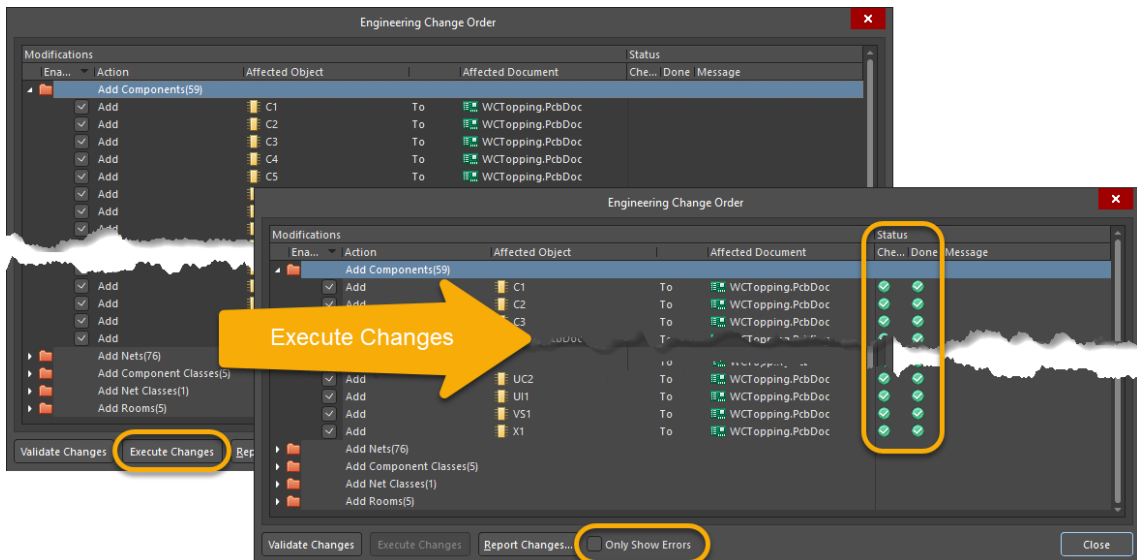

Figure 3. *Engineering Change Order* dialog
14. At the new dialog *Engineering Change Order* (ECO) select the **Execute Changes** button in the lower left of the dialog, as shown in Figure 3 below.